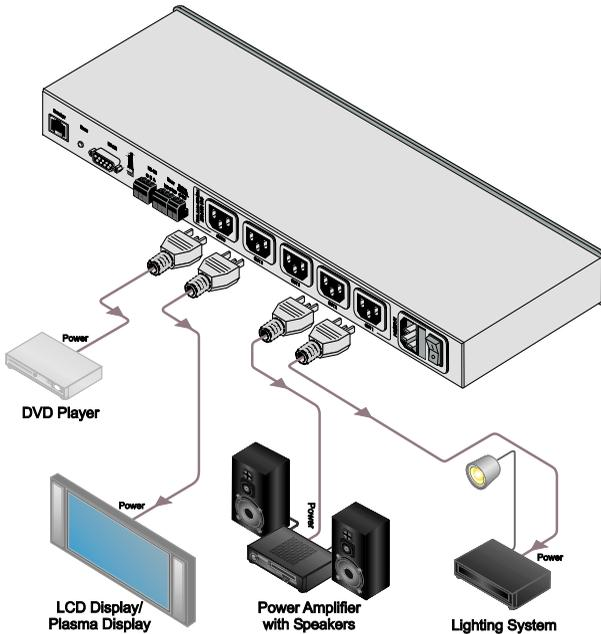

Figure 4: Connecting the PL-50
To connect the **PL-50**, as illustrated in the example in Figure 4, do the following1:
3. Connect an item (for example, an alarm) via the RELAY and/or DIGITAL CONTROL terminal block connectors (not shown in Figure 4).
5. Connect the power cord3 (not shown in Figure 4).